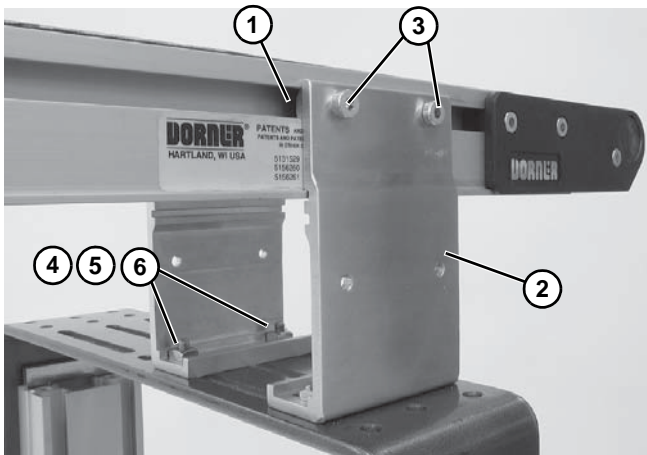

Figure 12
6. Fasten brackets (**Figure 12, item 2**) to conveyor with mounting screws (**Figure 12, item 3**).
7. Fasten brackets to support stand with mounting screws (**Figure 12, item 4**), washers (**Figure 12, item 5**) and nuts (**Figure 12, item 6**).
8. Tighten screws (**Figure 12, item 3 & 4**) to 60 in-lb (7 Nm).